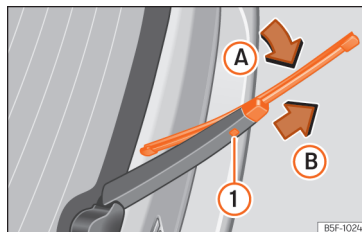

Fig. 42 Changing the rear wiper blade
- Turn the blade slightly » Fig. 42 (arrow A).
- Hold down the release button ① while gently pulling the blade in the direction of arrow B.
- Insert a new blade of the **same length and type** in the rear wiper arm in the opposite direction to the arrow B and hook into place button ①.